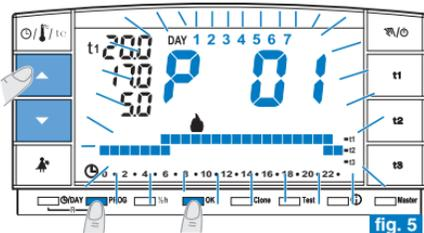

fig. 5
- If, however, you want to select another program (fig. 5), quickly press the **PROG** key (or keys  $\blacktriangle$ / $\blacktriangledown$ ) until the display shows the desired program (P02 winter or P03 summer), then press **OK**.